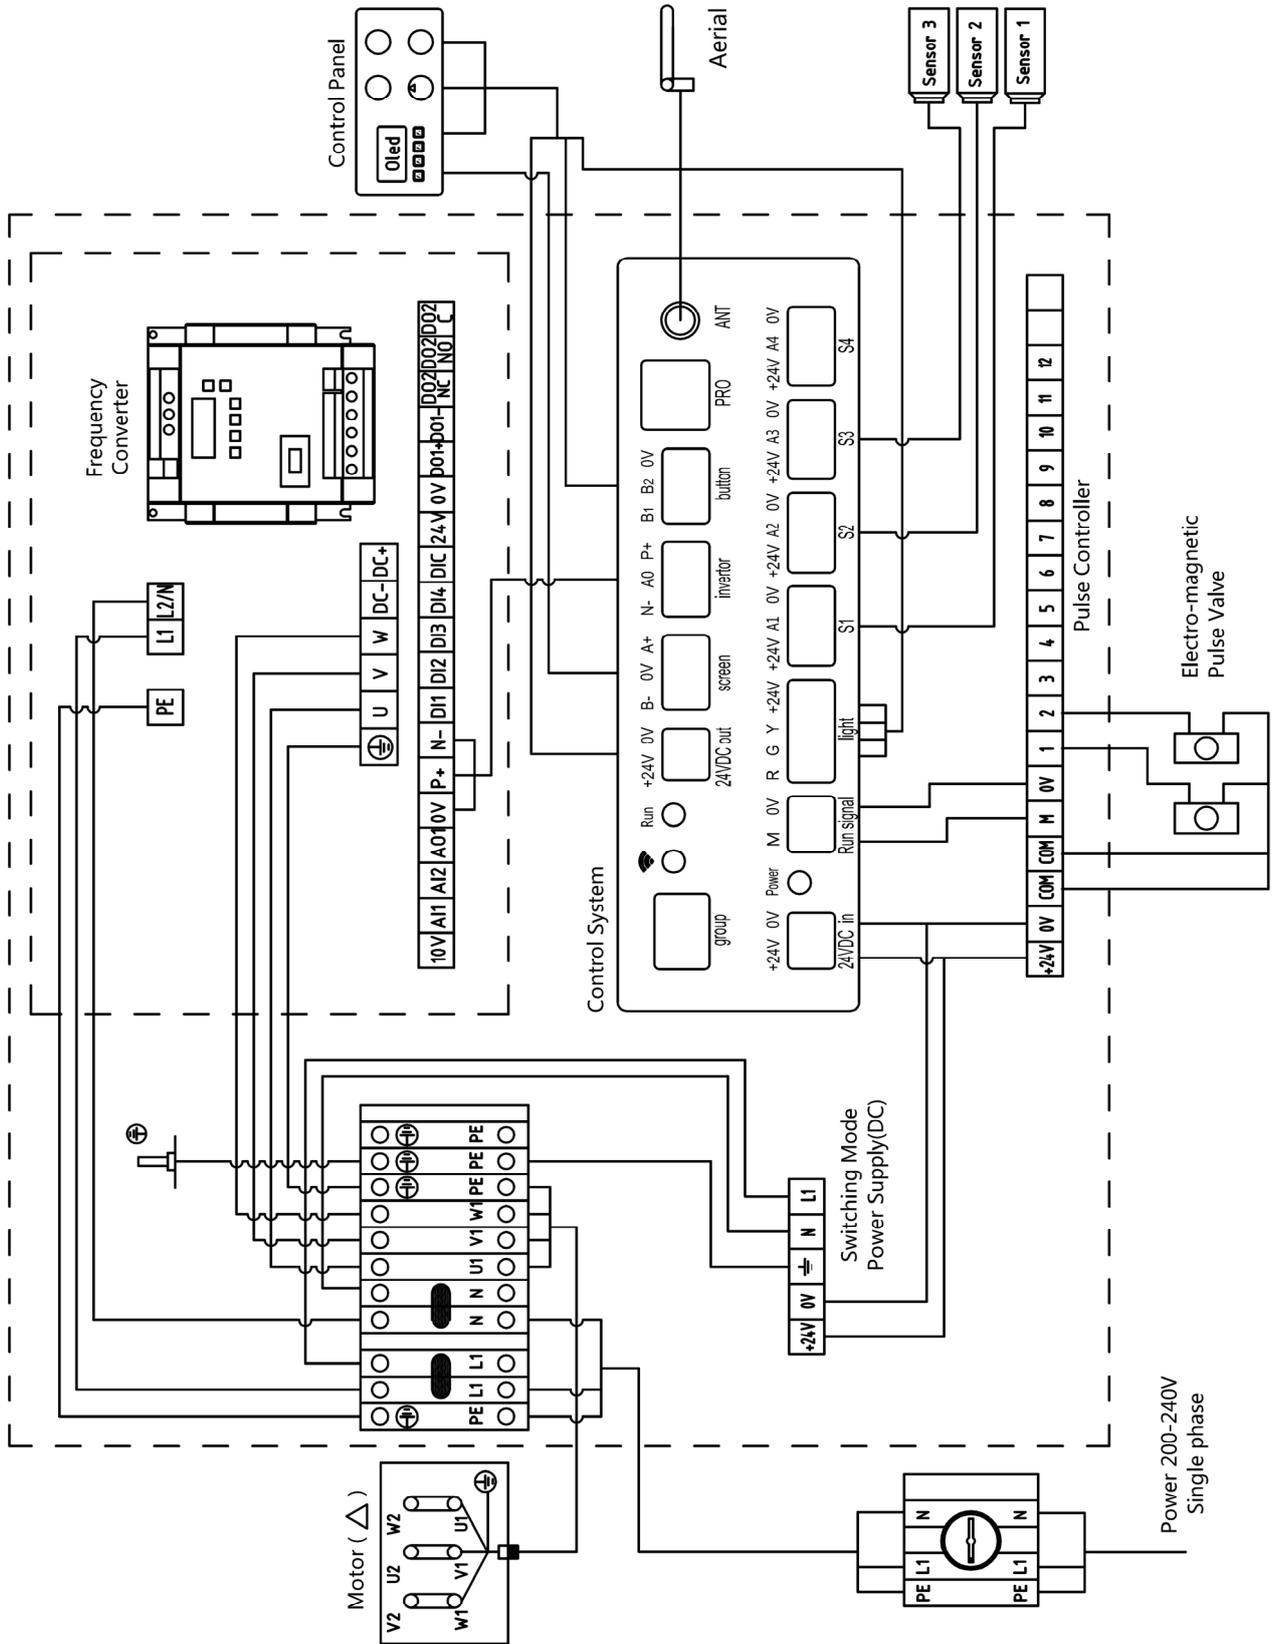

Fig. 2
2.3.3 Electrical diagram (Fig. 2)
Refer to the electricity diagram as shown in Fig. 2 if needed.